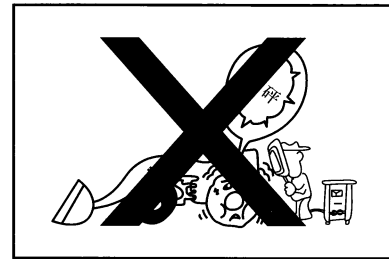

Figure 2-24
- When performing welding near a wheels, special care should be given because the tyre wheel may cause explosion. (Figure 2-24)